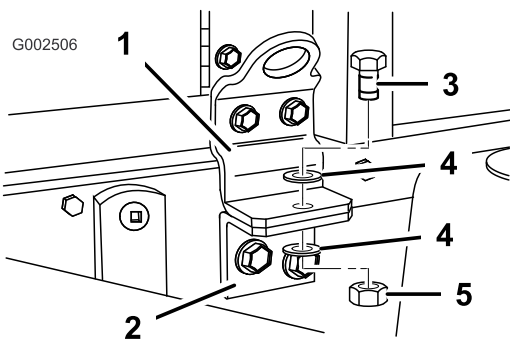

Figure 45
3. Remove the safety bolts from the front of the skid (Figure 45).